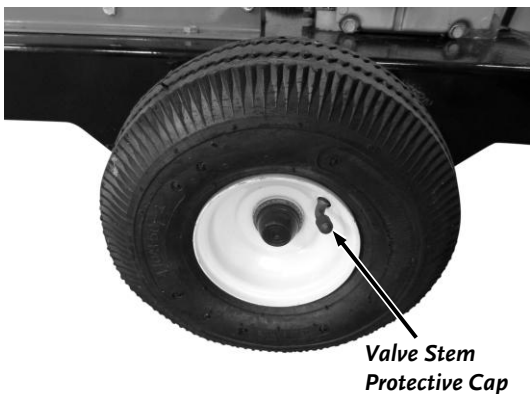

Figure 12
1. Remove the Valve Stem Protective Cap (Figure 12) and check the tire pressure with a Tire Pressure Gauge.